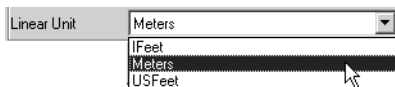

Figure 3-73. Linear Units List
- the Linear units (Figure 3-73).